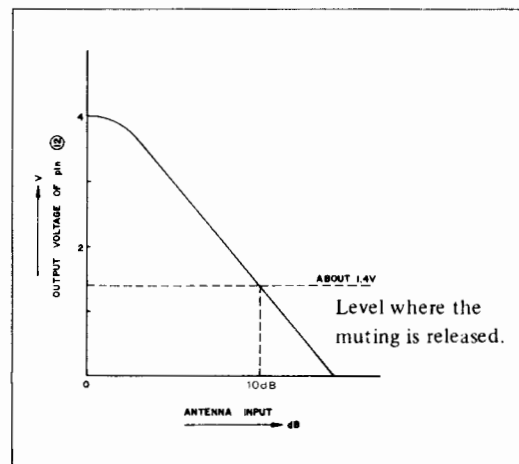

Figure 14
Fig. 14 shows the output voltage of two outputs, one is at the terminal (10) of IC101 and another, at the collector of transistor Q401, to be added to each other.